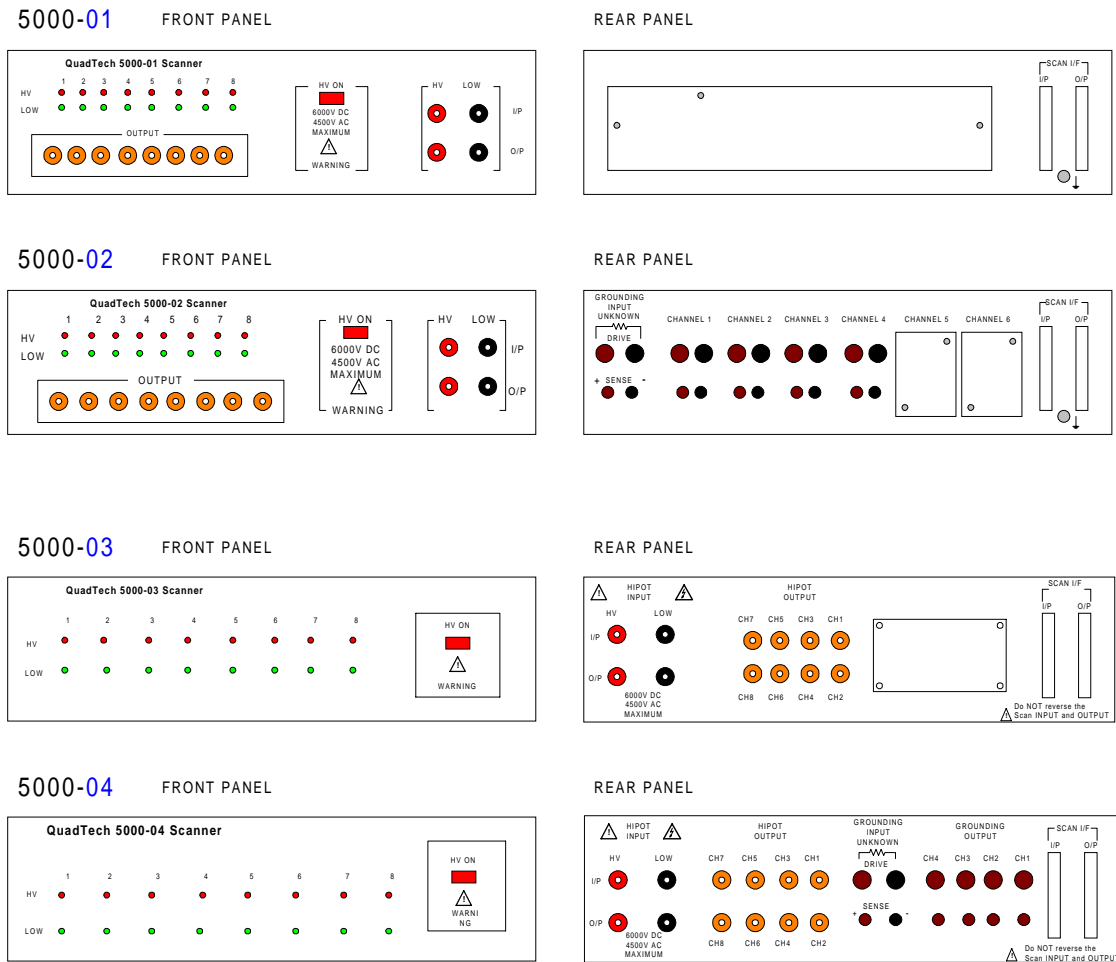

Figure 2: Guardian 5000-01, 02, 03 and -04 External Scanners
Figure 2 illustrates the four EXTERNAL Scanners (P/N 5000-01, -02, -03, & -04) available for use with the Guardian 6000 Series instruments. The 5000-01 Scanner has 8 front panel High Voltage (HV) channels. The 5000-02 scanner has 8 front panel HV channels and 4 rear panel Ground Continuity (GC) channels. The 5000-03 Scanner has 8 rear panel HV channels and is rack mountable. The 5000-04 Scanner has 8 rear HV channels, 4 rear GC channels and is rack mountable.